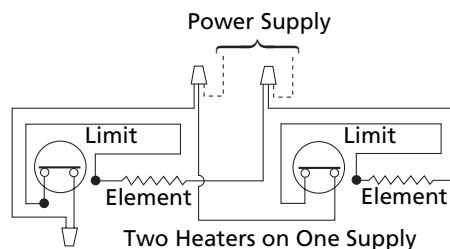

Figure 12 – Dual Heater Wiring Connections
6. Wire heaters as shown in Wiring Diagram, Figure 12.